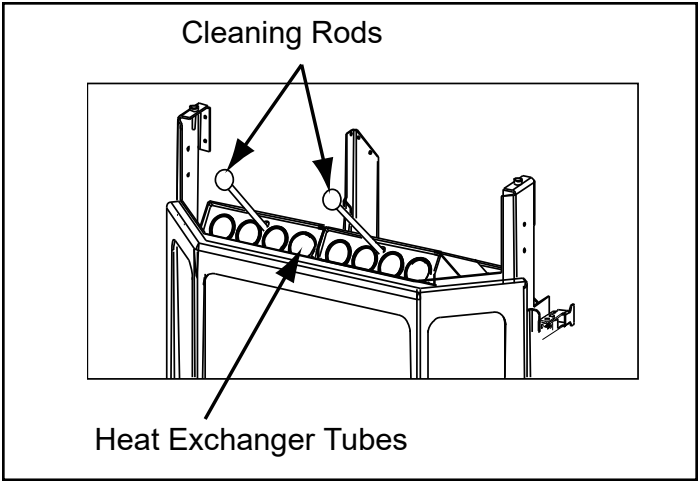

**Figure 30.1**
21. **Wiring Harness:** See **Figure 30.1** below